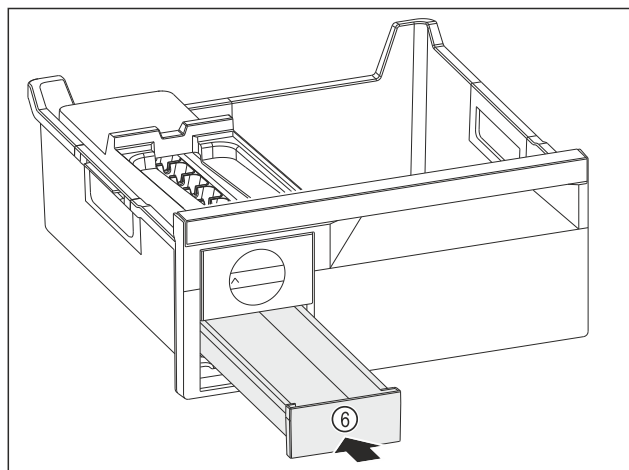

Fig. 93
- ▶ Insert the ice cube drawer Fig. 93 (6).